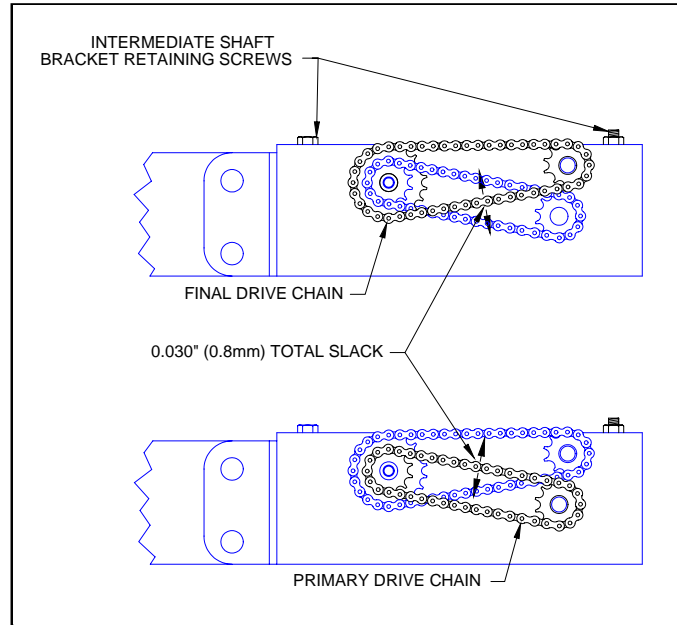

FIGURE 4-18: DRIVE CHAIN SLACK ADJUSTMENT
- 2) Refer to **Figure 4-18**. Loosen screws fastening intermediate shaft bracket to carriage. The front screw is accessible from top of lift, and rear screw is accessible through service hatch (use an open end wrench above intermediate shaft mounting bracket to hold nut).
- 5) Refer to **Figure 4-18**. Adjust chain tension to achieve .030" (.8mm) slack on upper span.